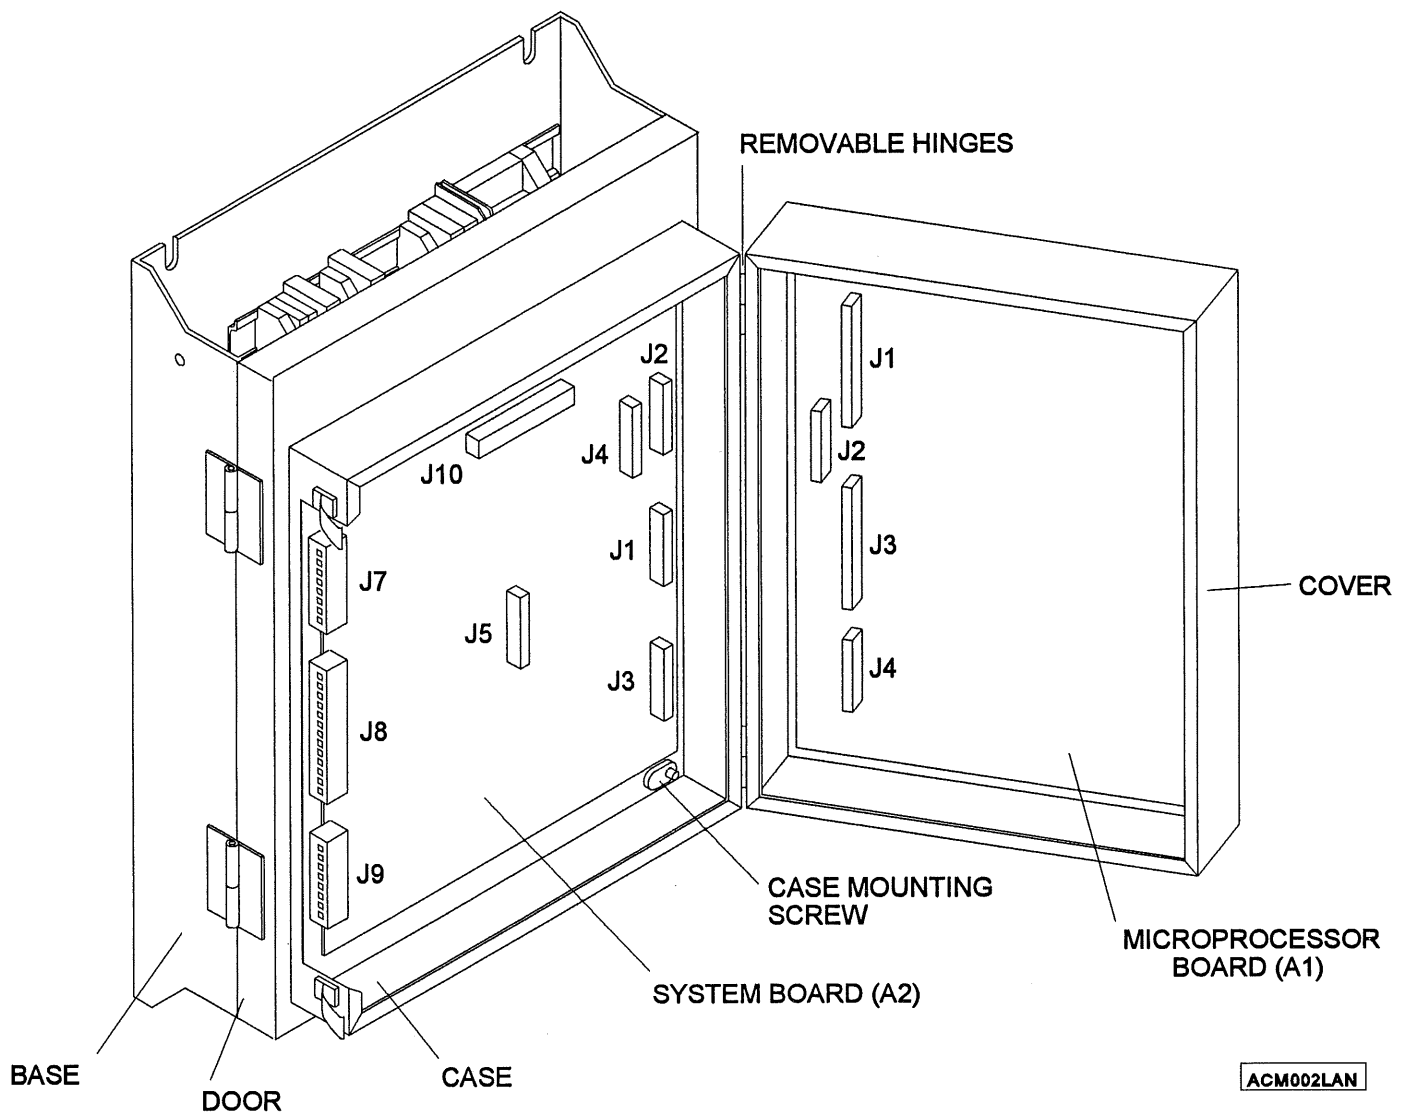

FIGURE 7-1. REPLACING SYSTEM AND MICROPROCESSOR BOARDS
7.3.1 REPLACING MICROPROCESSOR BOARD (A1) (Refer to Figure 7-1.)
7.3.2 REPLACING SYSTEM BOARD (A2) (Refer to Figure 7-1.)